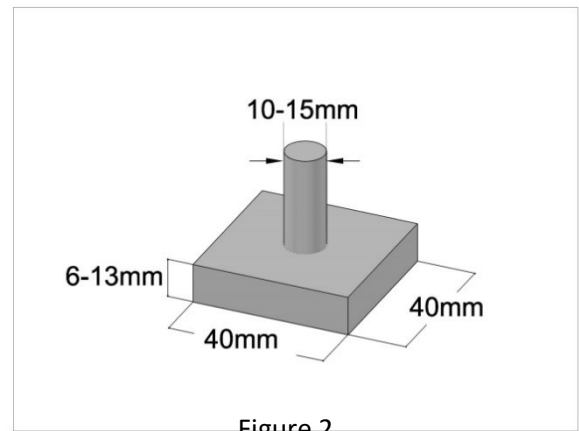

Figure 2
- a. The load will be applied from above with the loading plate (**Figure 2**) centered over one of the three loading locations. (**Hint: the loading will be applied from the top pressing down on the bridge.**)
- b. The load will be applied from above by means of a 40-mm square by 6-mm to 13-mm thick plate. A 10-mm to 15-mm diameter loading rod will be attached to the center of the plate (**Figure 2**). The plate will be horizontal, have a flat bottom and will not pivot on the loading rod.